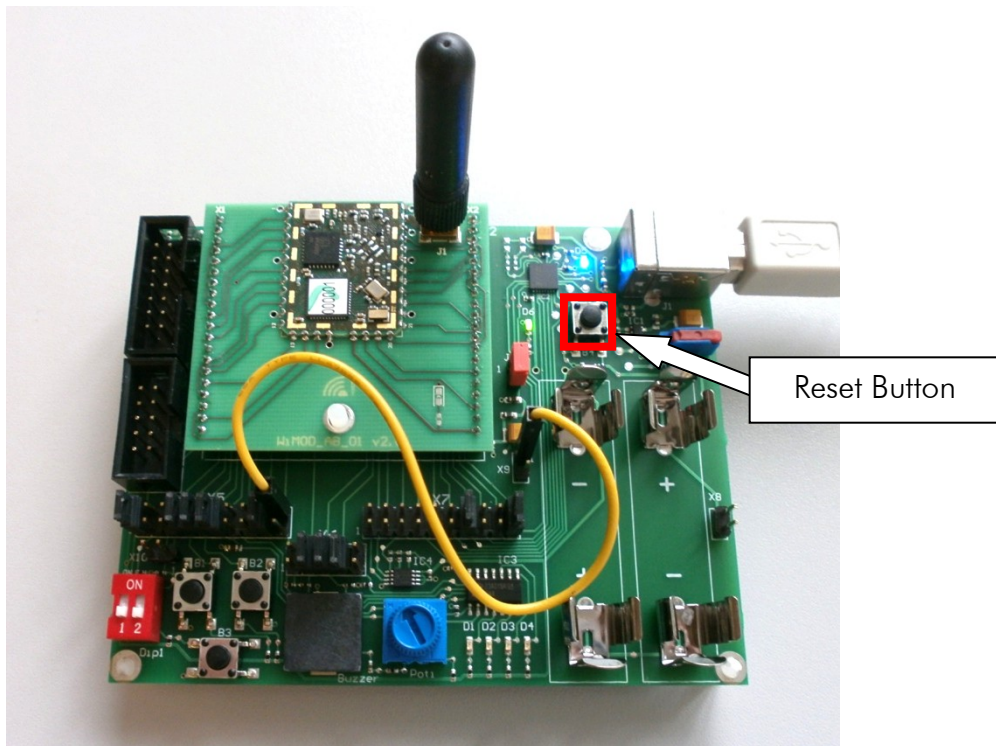

Figure 4-2: Establishing Bootloader Mode
- Enter bootloader mode by connecting the iM880A bootloader pin to Vcc and power cycle the radio module (see Figure 4-2).